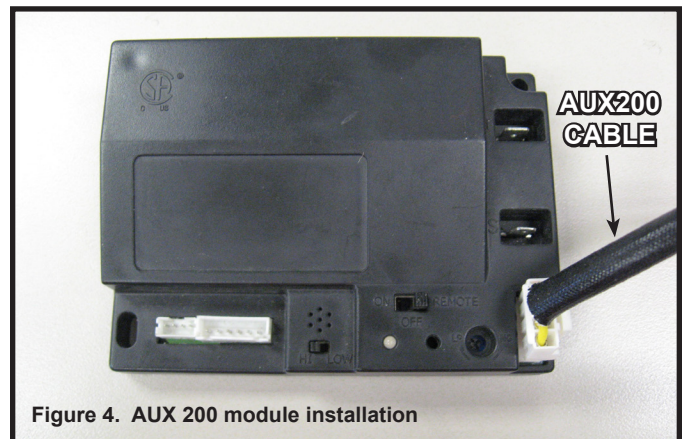

Figure 4. AUX 200 module installation
- Insert the 4 hole harness from the AUX200 module into the 4 pin plug on the control module. See Figure 4.